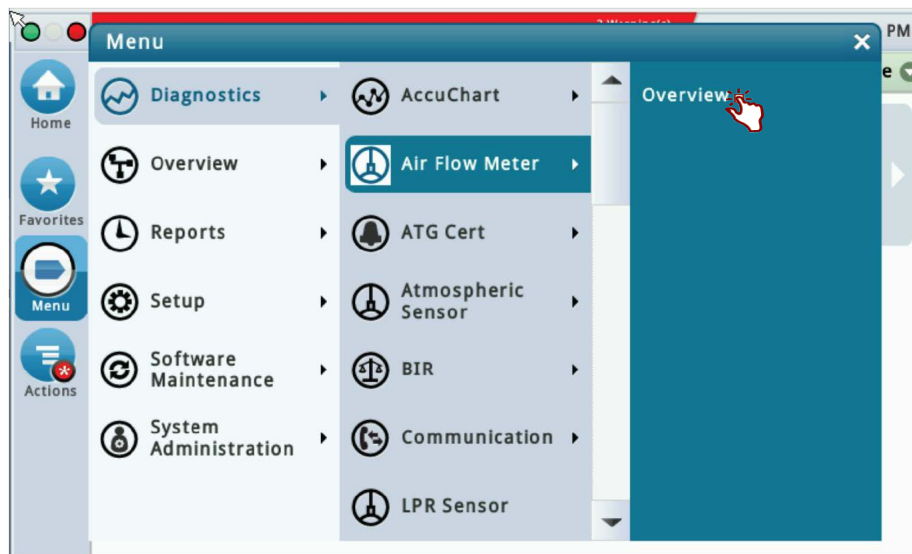
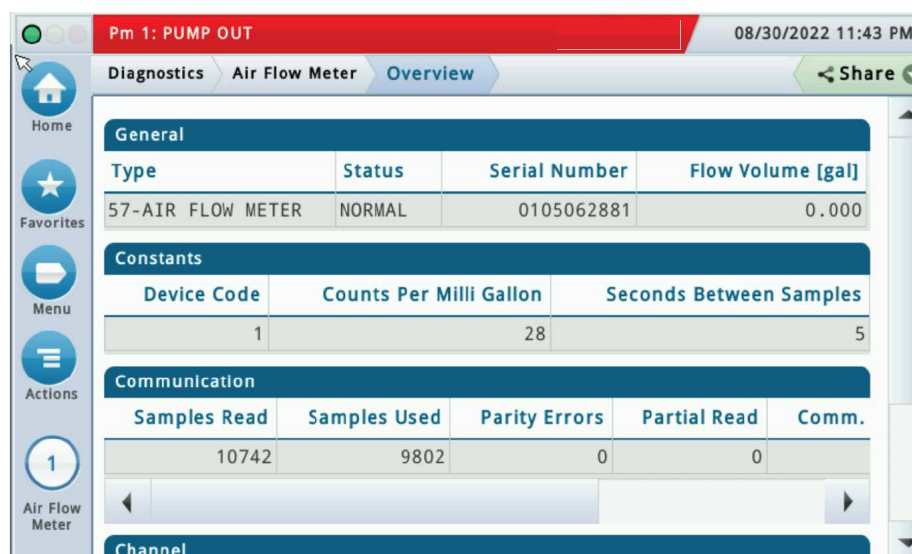

Figure 50. Accessing the Air Flow Meter Overview Screen
Figure 51. Air Flow Meter Overview Screen - Page 1
1. Touch Menu>Diagnostics>Air Flow Meter>Overview (see Figure 50) to display the Air Flow Meter Overview screen (see Figure 51).